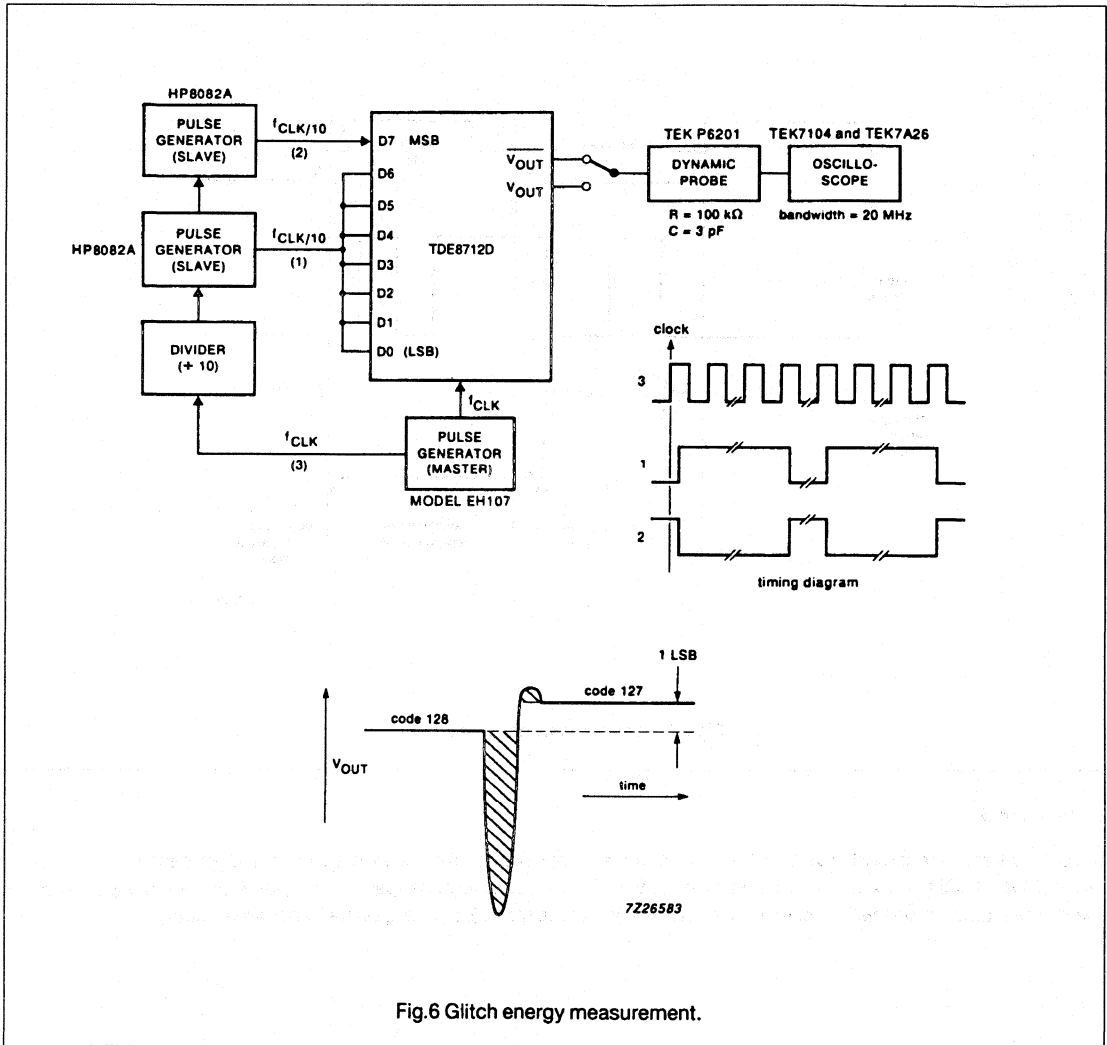

Fig.6 Glitch energy measurement.
Output transients (glitches; <math>f_{CLK} = 50 \text{ MHz}</math>; note 6; see Fig.6)
6. The definition of glitch energy and the measurement set-up are shown in Fig.6. The glitch energy is measured at the input transition between code 127 to 128 and on the falling-edge of the clock.
**Note to Fig.6**